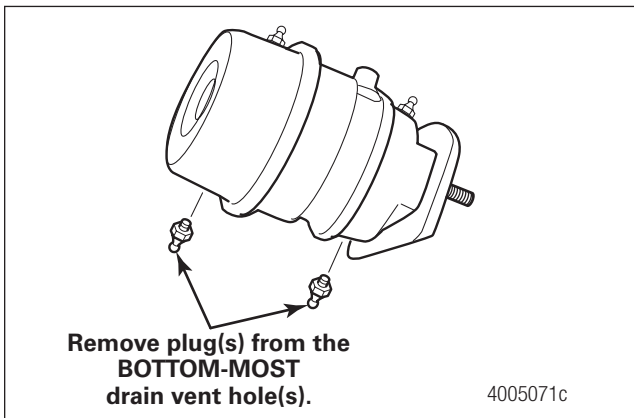
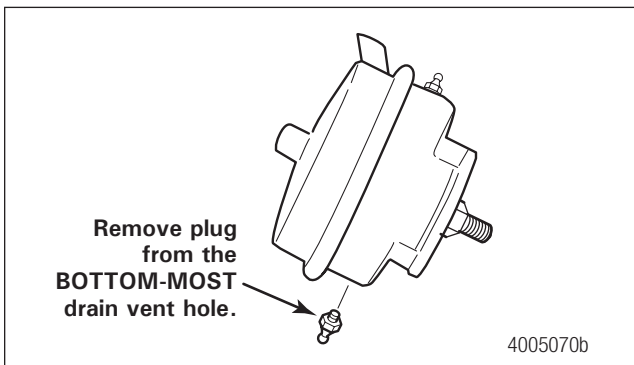

Figure 10.5 Service/Spring Chamber Breather Plugs
Figure 10.6 Service Chamber Breather Plug
9. If breather plugs are supplied, locate the bottommost breather plug and remove it from the chamber. Figure 10.5 and Figure 10.6.